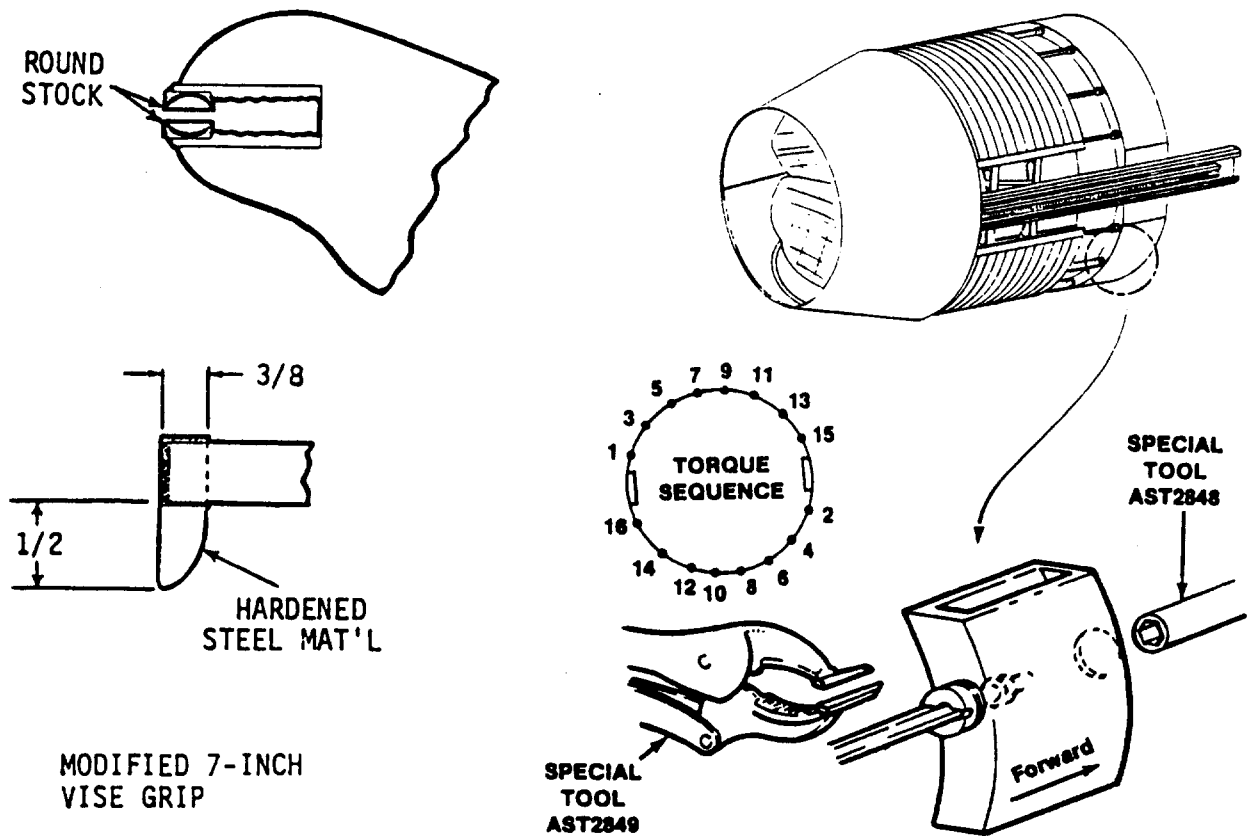

Figure 210 - Torquing Tension Straps
- (1) Utilize a torque wrench and a modified vise grip pliers per Figure 210 to apply torque to the tension straps.
- (2) Apply torque in the sequence shown up to 48 inch pounds. Repeat the sequence 3 times. Lightly tap the cascade assembly with a rubber mallet between each sequence. After the final torque the cascade should retain 35 inch pounds.